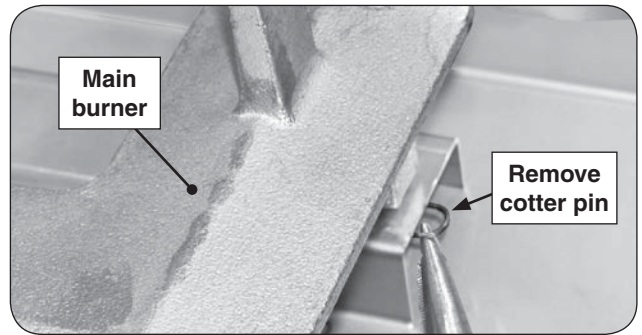

Fig. 42-1 Main burner removal
2. Locate and remove the cotter pin from the left or right rear burner anchoring peg by pulling it straight out of the cotter pin hole using fingers or needle-nose pliers. See Fig. 42-1.